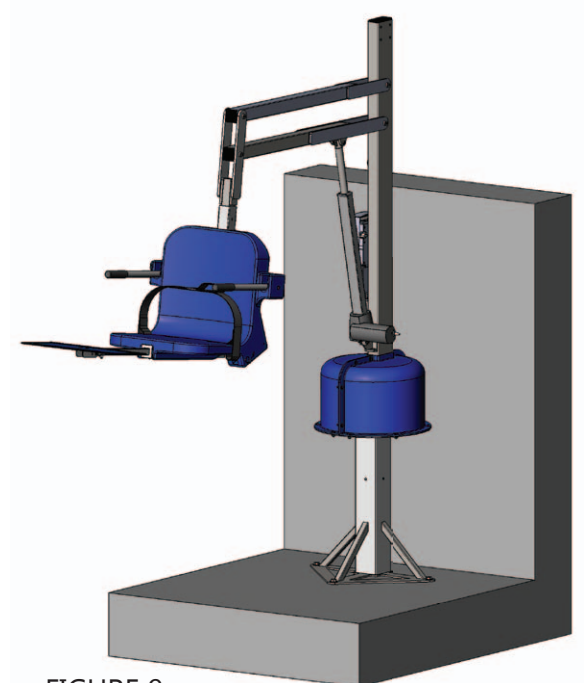

FIGURE 9
**8.** The Spa Lift Ultra is now assembled and ready for use! Be sure the battery is fully charged. FIGURE 9 shows completed assembly mounted on a spa deck.